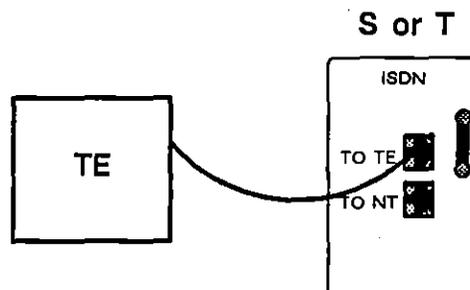

Figure 51-5 When emulating DCE in normal transmit mode, break the S or T interface toward the ISDN terminal (TE).
2. *Emulate DCE in normal transmit mode.* Figure 51-5 shows the ISDN TIM test configuration when emulating DCE in normal transmit mode. Connect the TO TE interface to the ISDN terminal.